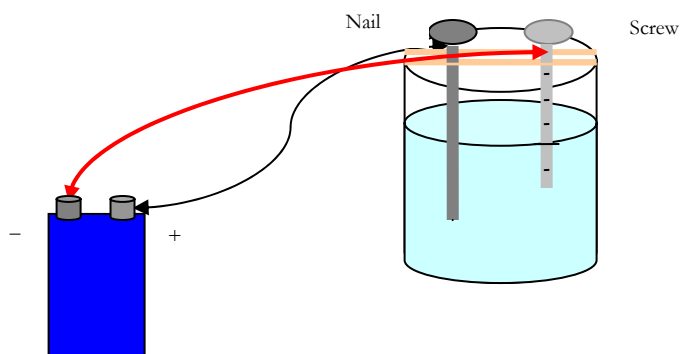

Figure 1. Apparatus for Part 1
3. Stretch two rubber bands around the 150 mL beaker. Be careful not to spill any of the solution. The rubber bands should loop from the top to the bottom of the beaker. Position the 2 rubber bands next to each other (Figure 1). **HINT:** Do not position the bands around the circumference of the beaker.